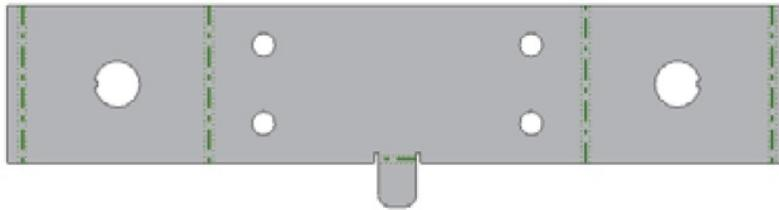

Figure 15-115 Flat pattern of the component
1. Choose the **Create Flat Pattern** tool from the **Flat Pattern** panel of the **Sheet Metal** tab; the flat pattern of the sheet metal component is displayed, as shown in Figure 15-115.